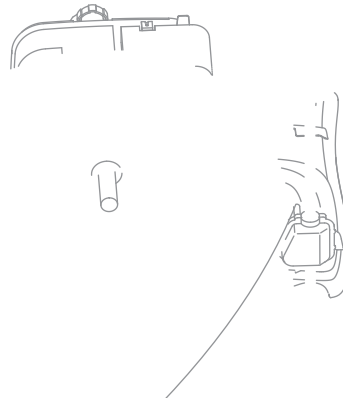

Figure 5-3: Remove blade and related hardware.
2. Remove bolt, bell blade support, blade, and blade adapter from the engine crankshaft, Figure 5-3.